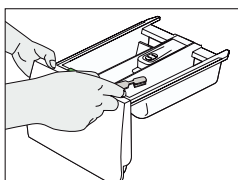

Fig.18
- Clean the drawer recess with a small brush. (Fig.18, Fig.19)